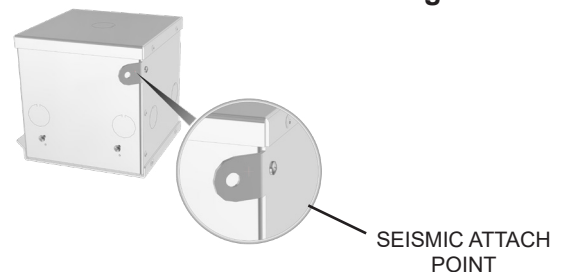

Figure 3.
**NOTE:** The conduit box has a seismic attach point to accommodate installation security if required as shown in Figure 3.